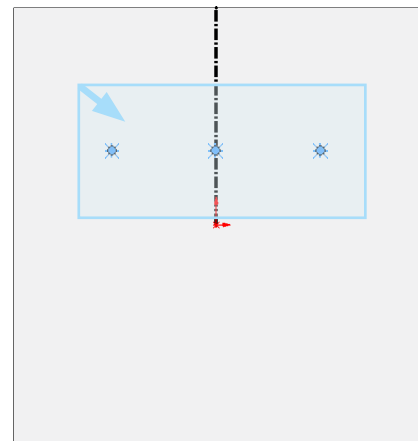

Fig. 10
Step 11. **Drag a selection to right** select all points, **Fig. 10**.